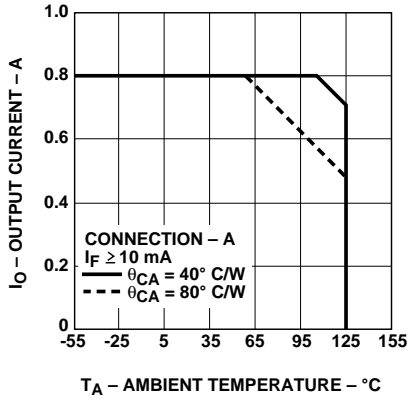
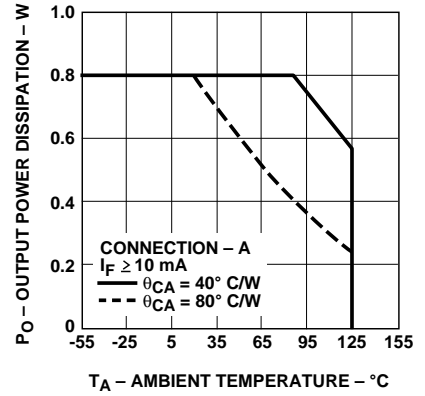

Figure 2. Maximum Average Output Current Rating vs. Ambient Temperature.
Figure 4. Output Power Rating vs. Ambient Temperature.
Average Output Current – Figure 2
- For rating, see Figure 4. The output power  $P_O$  rating curve is obtained when the part is handling the maximum average output current  $I_O$  as shown in Figure 2.
IN ORDER TO DETERMINE  $V_{OUT}$  CORRECTLY, THE CASE TO AMBIENT THERMAL IMPEDANCE MUST BE MEASURED FOR THE BURN-IN BOARDS TO BE USED. THEN, KNOWING  $\theta_{CA}$ , DETERMINE THE CORRECT OUTPUT CURRENT PER FIGURES 2 AND 4 TO INSURE THAT THE DEVICE MEETS THE DERATING REQUIREMENTS AS SHOWN.
Rating curves are shown in Figures 2 and 4. Figure 2 specifies the maximum average output current allowable for a given ambient temperature. Figure 4 specifies the output power dissipation allowable for a given ambient temperature. Above  $55^{\circ}\text{C}$  (for  $\theta_{CA} = 80^{\circ}\text{C}/\text{W}$ ) and  $107^{\circ}\text{C}$  (for  $\theta_{CA} = 40^{\circ}\text{C}/\text{W}$ ), the maximum allowable output current and power dissipation are related by the expression  $R_{SS} = P_O(\text{max}) / (I_O(\text{max}))^2$  from which  $R_{SS}$  can be calculated. Staying within the safe area assures that the steady-state junction temperatures remain less than  $150^{\circ}\text{C}$ . As an example, for  $T_A = 95^{\circ}\text{C}$  and  $\theta_{CA} = 80^{\circ}\text{C}/\text{W}$ , Figure 2 shows that the output current should be limited to less than
610 mA. A check with Figure 4 shows that the output power dissipation at  $T_A = 95^\circ\text{C}$  and  $I_O = 610$  mA, will be limited to less than 0.35 W. This yields an  $R_{SS}$  of 0.94  $\Omega$ .